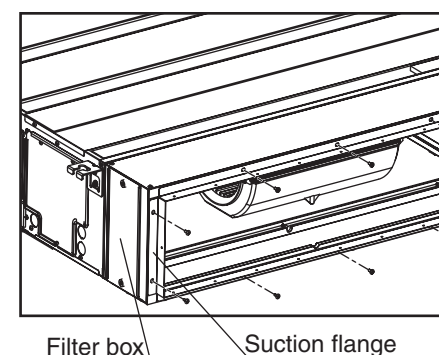

Fig.3-3
3. Install the supplied suction flange on the filter box with the supplied screws. (Fig. 3-3)